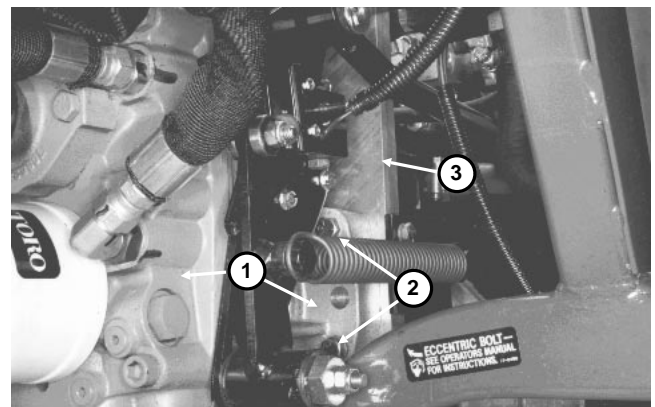

Figure 40
8. Support the transmission to prevent it from falling while carefully removing four (4) capscrews and locknuts retaining transmission to support plate. Carefully pull transmission off of support plate and lower it out of the machine (Fig. 40).